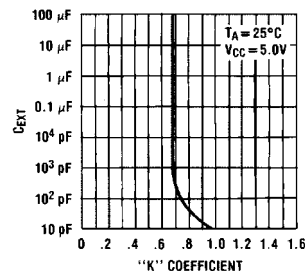

FIGURE 5.
6. The "K" coefficient is not a constant, but varies as a function of the timing capacitor CX. Figure 5 details this characteristic.
7. Under any operating condition CX and RX must be kept as close to the one-shot device pins as possible to minimize stray capacitance, to reduce noise pick-up, and to reduce I X R and L di/dt voltage developed along their connecting paths. If the lead length from CX to pins (10) and (11) is greater than 3 cm, for example, the output pulse width might be quite different from values predicted from the appropriate equations. A non-inductive and low capacitive path is necessary to ensure complete discharge of CX in each cycle of its operation so that the output pulse width will be accurate.